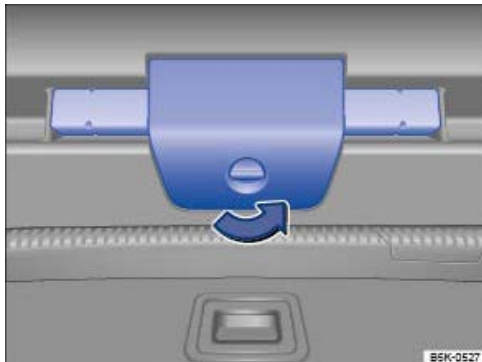

Fig. 30 In the boot lid: holder for the warning triangle.
- Turn the screw of the warning triangle holder 90° in the direction of the arrow → Fig. 30 .